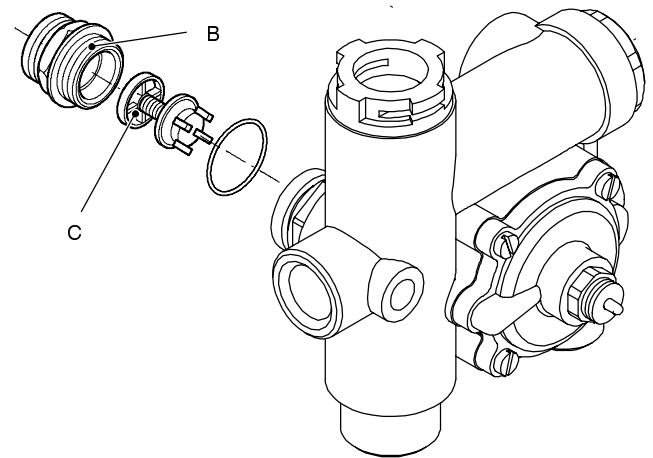

Fig. 64
- 4 Unscrew the connector B and remove the by-pass valve C (Fig. 64).
- 5 Reassemble the by-pass valve as illustrated in Fig. 64 reversing the order of removal.